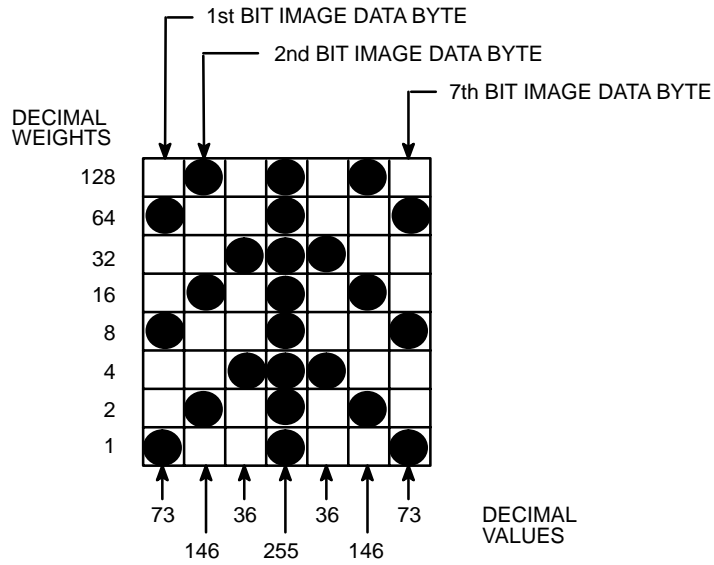

Figure 4-1. Bit Image Pattern Plan
2. Determine the decimal equivalent of each Bit Image data byte required to produce the pattern (Figure 4-1).